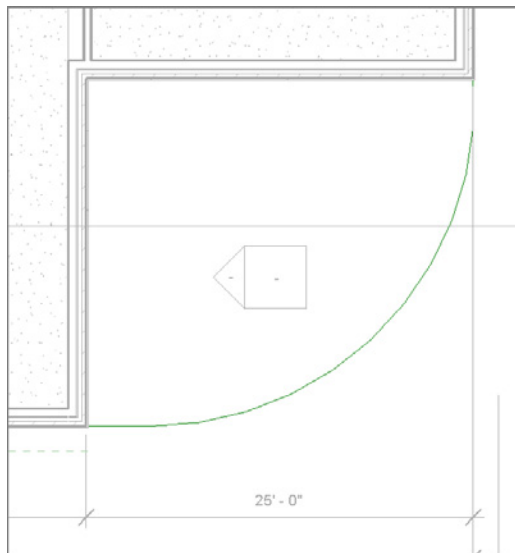

FIGURE 16.40: A simple line and an arc
11. Click Modify. Your plan should look like Figure 16.40.